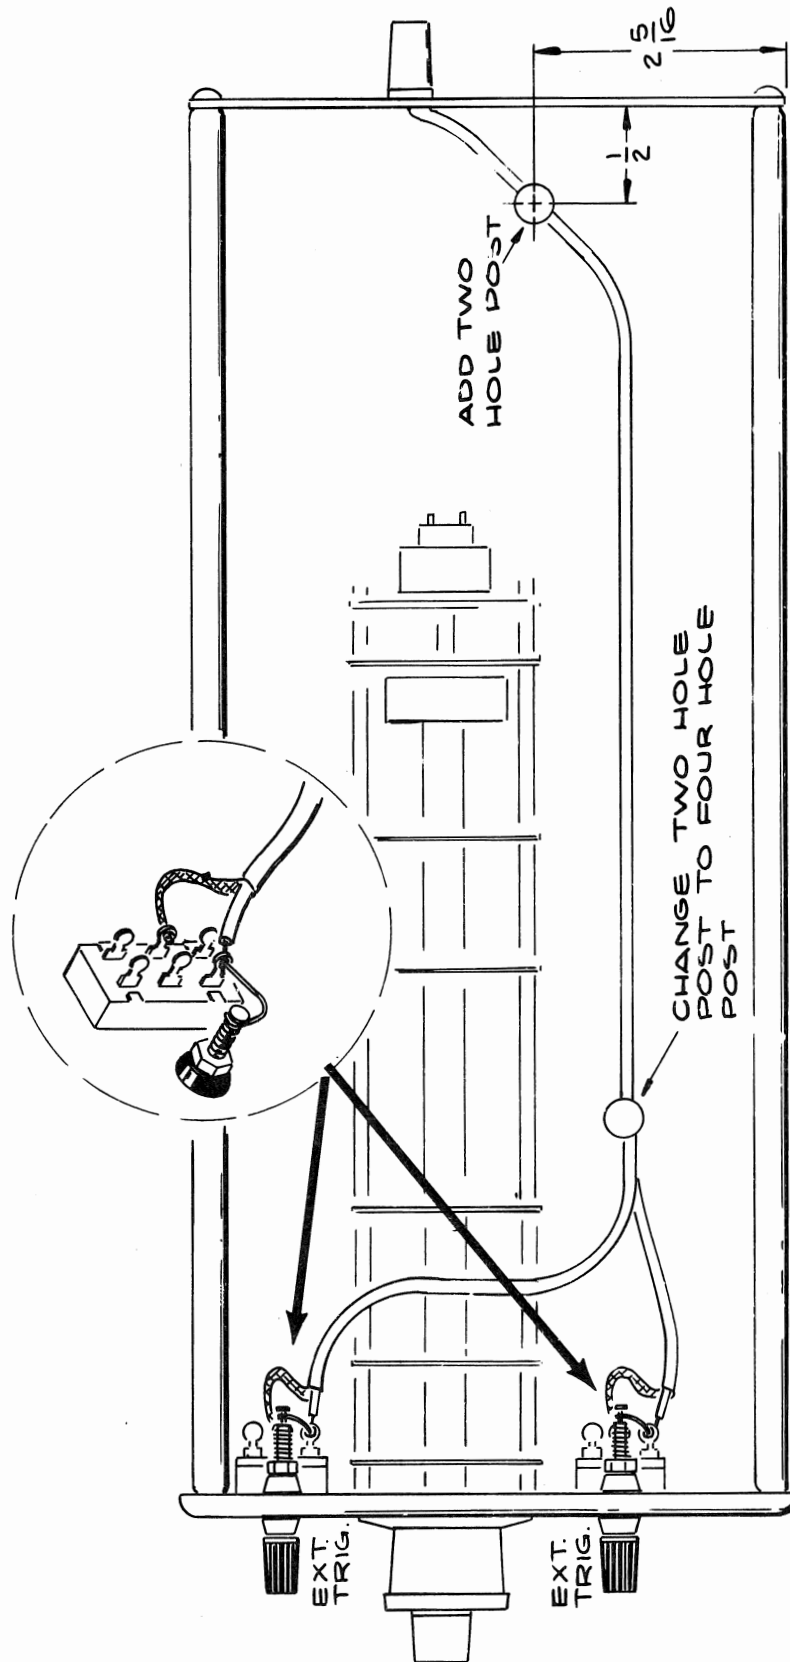

Fig. 7, 3B1
IMPORTANT: Select the proper steps below, plus the portion of Fig. 7 which applies, to connect either the Delayed EXT TRIG or the Normal EXT TRIG binding post to the rear panel.
- ( ) d) Drill a 5/32 in. hole at the rear of the chassis, as shown in Fig. 7.